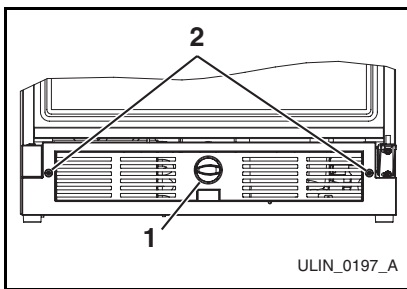

Figure 7
2. Remove the control knob (**Figure 7, 1**) by pulling it straight out, away from grille.
3. Remove two screws from grille (**Figure 7, 2**) and save.
7. Reinstall the control knob (**Figure 7, 1**).